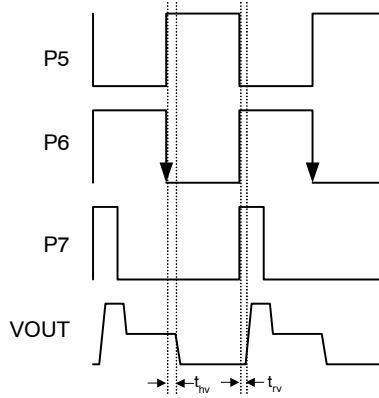

Figure 25. Pixel Timing Detail
2. Refer to Figure 25: VCCD Clock Edge Alignment